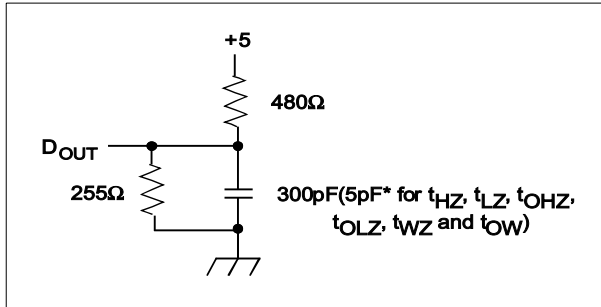

Figure 1. Output Load
8. Transition is measured ±200 mV from steady state voltage prior to change, with loading as specified in Figure 1.
Output Load	See Figures 1 and 2